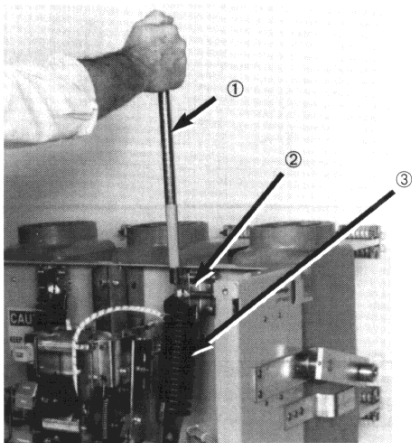

Figure 8: Removing the closing spring
1. With the circuit breaker in the open position and the drive springs discharged, slide the manual charging handle onto one of the drive spring brackets (figure 8). Press up on the manual charging handle just enough to off-load the drive spring; remove the upper 1/2" bolt (figure 8). Release the drive spring pressure; remove the spring. Repeat with the other drive spring.